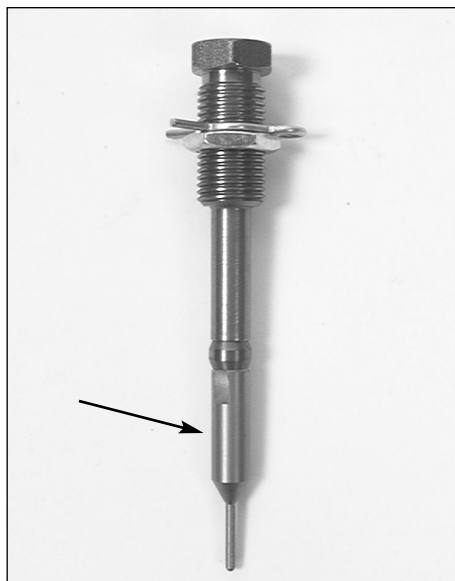

FIG 84
2. Unscrew the decapping pin (see arrow FIG 84), and replace it with a new one.